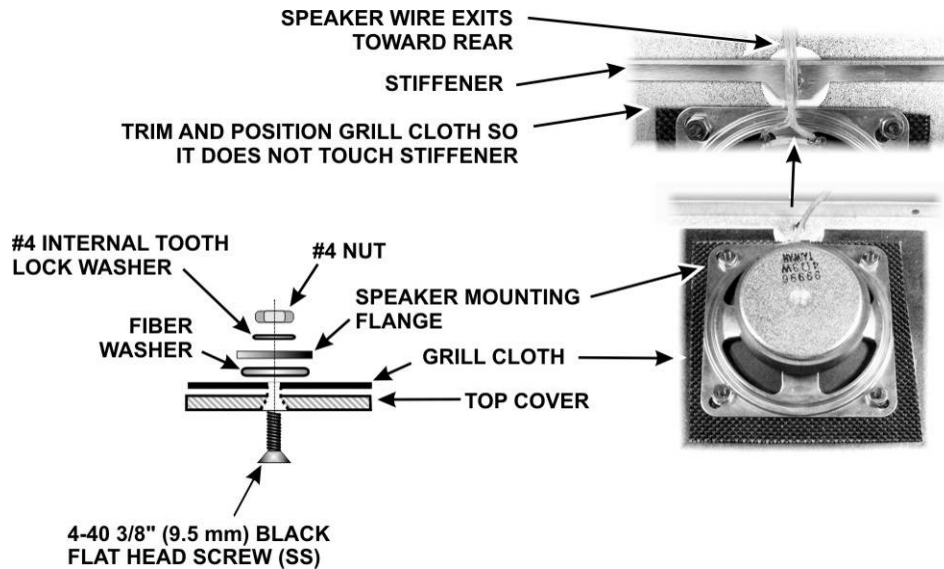
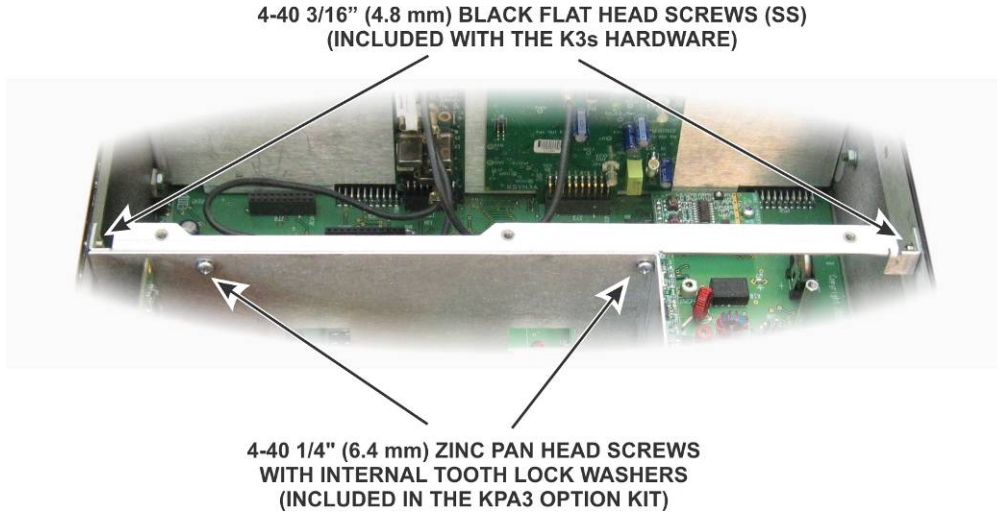

Figure 85. Mounting Loudspeaker.
Figure 90. Installing the Chassis Stiffener Bar.
- Trim the grill cloth to cover the speaker grill openings and overlap the four holes for the loudspeaker mounting screws. Mark and cut four holes in the grill cloth for screws to pass through the cloth. The grill cloth is shown as it must fit after the speaker is mounted in Figure 85. Normally, the stiffener will remain attached to the K3 when you remove the top cover. If you install the KPA3A 100-watt amplifier, the stiffener will be attached to the KPA3A shield and cannot be removed with the cover (see Figure 90 on page 64). The grill cloth must be trimmed as shown so it cannot become trapped between the chassis stiffener and the top cover when the cover is removed and replaced.
- Mount the speaker using the hardware shown in Figure 85. A suggested procedure for doing this is as follows:
Remove the stiffener bar from the top cover and install it on the chassis as shown in Figure 90. The hardware required to attach it to the shield are in the KPA3A Option kit. The black flat head screws used to attach it to the side panels are part of the K3S kit hardware.